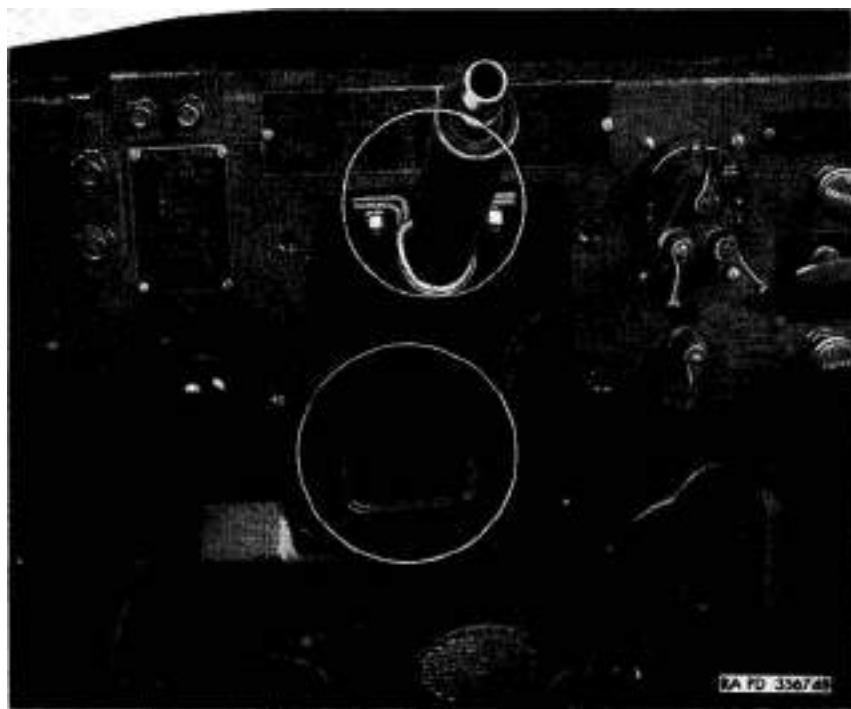

Figure 15. Steering column jacket disconnect points.
- (2) Remove steering post clamp and steering post clamp insulator (two cap screws, nuts, and lock washers) (A, *fig. 15*).
- (3) Apply grease on upper portion of steering gear column jacket and remove steering post collar (B, *fig. 15*).